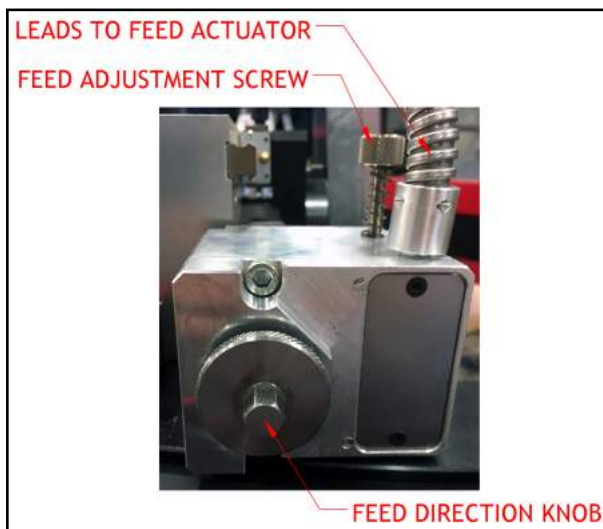

FIGURE 3-13. FEED ADJUSTMENTS
2. Set the feed direction according to the following steps, as shown in Figure 3-13: